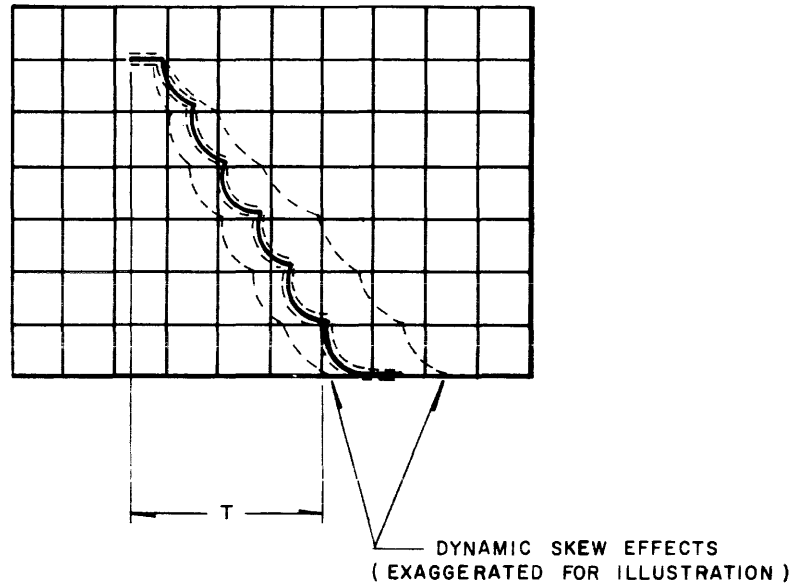

Figure 55. Staircase Waveform, Dual Gap Systems
3. While writing continuous "ones", the waveform should resemble that shown in Figure 55. Time T should approximate the results of subsection 13.3 step 7 and should not exceed: